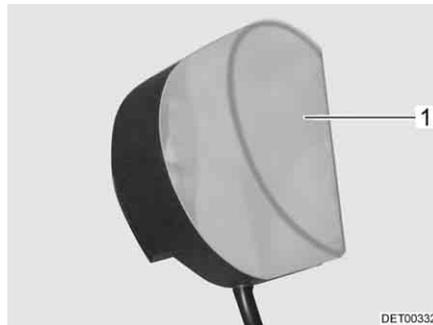

Fig. 279 Wardrobe light
- Press the light covering (Fig. 279,1) lightly together and remove it.